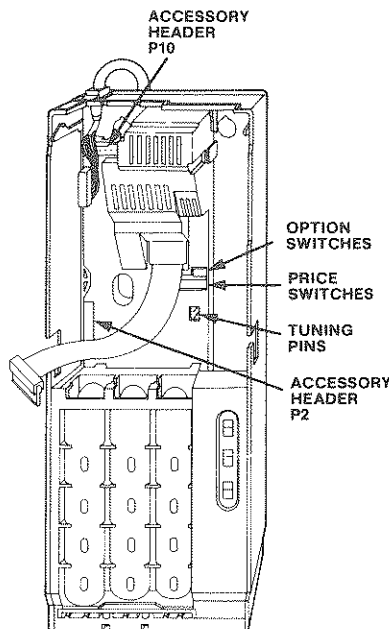

Fig. 4. Connecting the Accessory Harness
- ◆ Remove the Main Harness and its protective tab from the track at the top of the Housing. With the Main Harness free, the Control Board/Backplate can be tilted back from the Housing. This allows access to the accessory headers without disconnecting the four interconnecting harnesses from the base of the Control Board. Seat the Accessory Harness connectors on Control Board accessory headers P2 and P10. Install the black 5-pin connector on P10. Seat the 12-pin connector on P2 (Fig. 4).